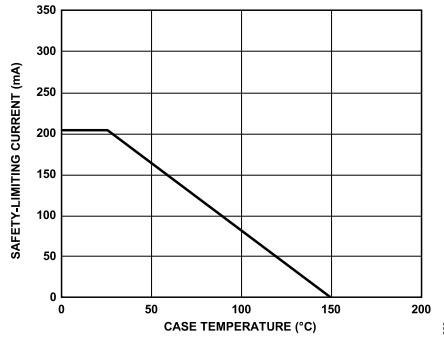

Figure 3. Thermal Derating Curve, Dependence of Safety-Limiting Values on Case Temperature, per DIN VDE V 0884-11:2017-01
Safety Limiting Values	Maximum value allowed in the event of a failure (see Figure 3)
- ² See Figure 3 for maximum rated current values for various temperatures.